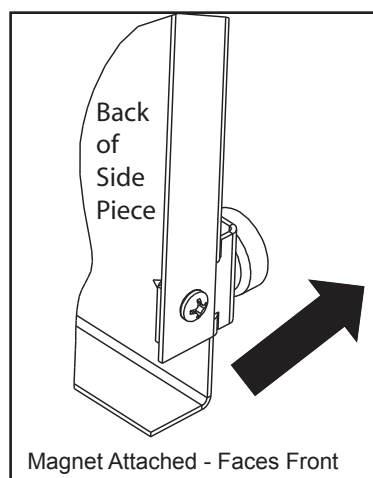

Figure 43.2
6. Secure the magnet to the bracket and attach the magnet and bracket to each metal side piece at the bottom. The magnet is facing the front. **Figure 43.2.**